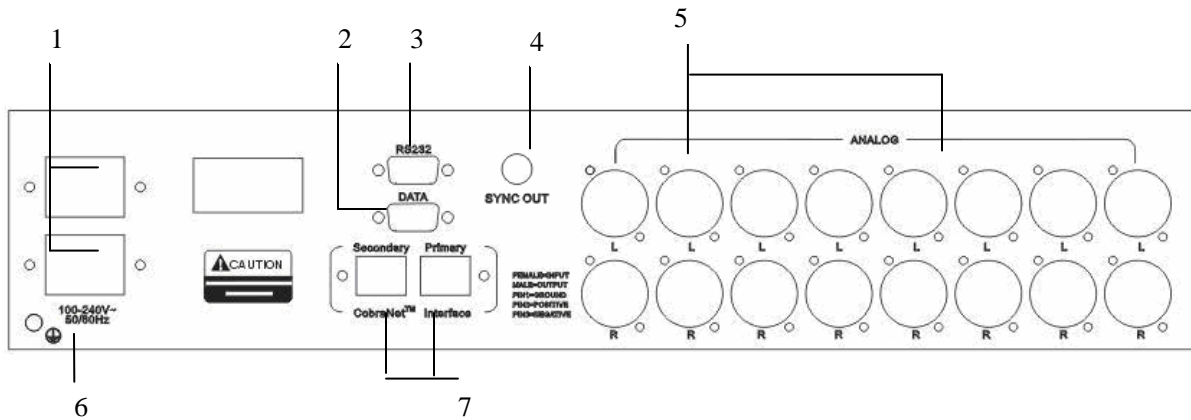

Fig.6 CAS2000 rear panel
- After initializing ,if the CAS2000's network is disconnected, the LCD displays as figure 6
The rear panel's sketch map is as figure 6